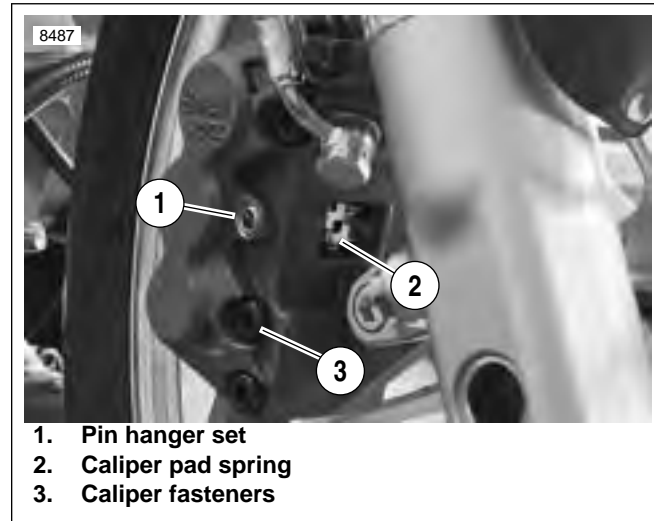

Figure 2-46. Pad Spring (Typical)
1. See Figure 2-46. Remove pin hanger set (1), brake pads and caliper pad spring (2).